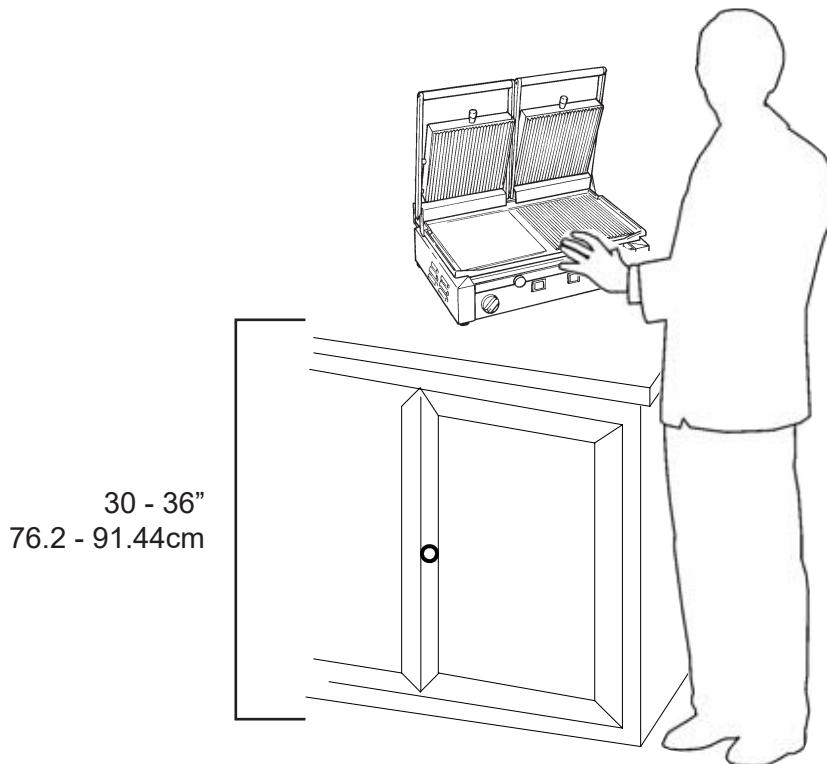

Fig. 4: Proper operation position.
1. Place yourself in a correct position (see Fig. 4), avoiding any contact with the machine.